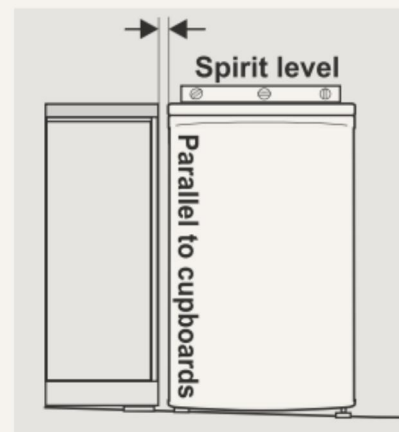

Fig. 4 — Check level in both directions.
4. **Level.** Adjust the four feet until a spirit level reads level front to back and side to side, and the appliance is aligned with the surrounding joinery (**Fig. 4**).